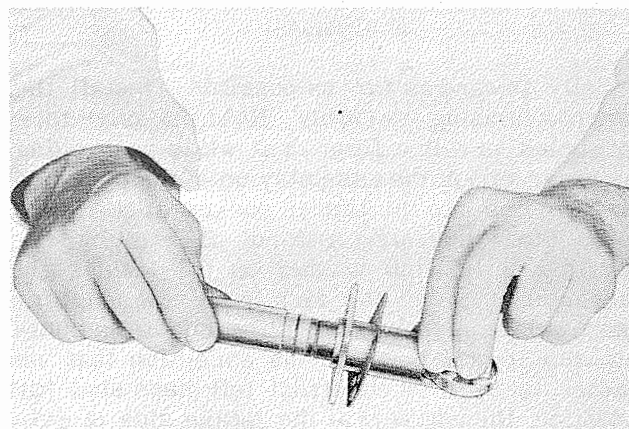

Figure 7-55. Installing Valve Tappet Retaining Circllet
d. Wipe the parting surfaces of the tappet guide clean and free from oil. Install a new gasket on the inner side of the tappet guide. Install the valve tappet roller bushing in the roller. Install the roller in the tappet and insert the roller pin. Coat the tappet assembly with castor oil and install in the tappet guide. Install the tappet retaining circllet using installing tool 803777. See figure 7-55.